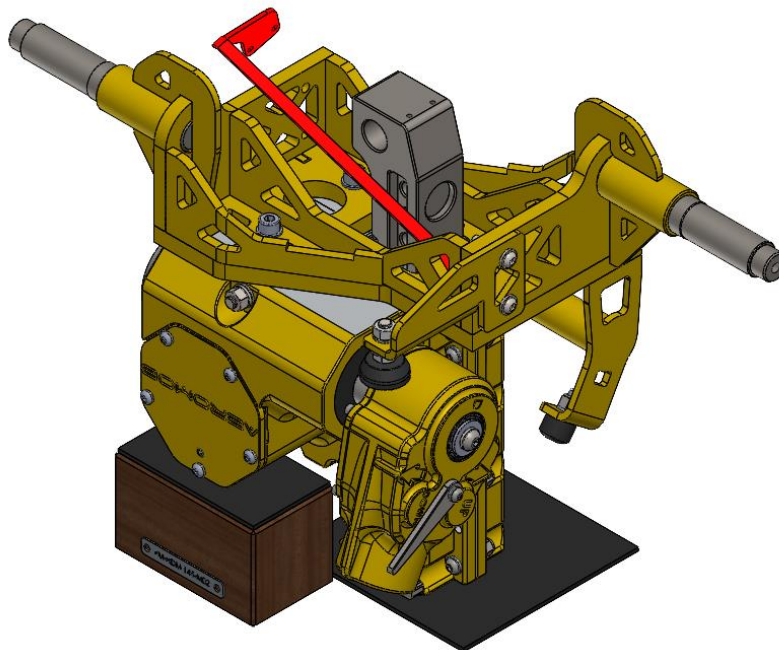
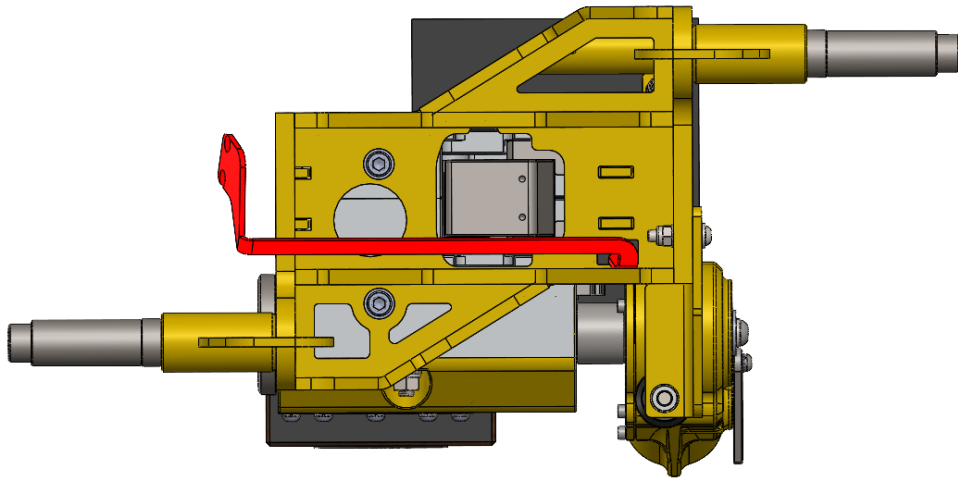

Figure 4
Figure 5
- b. With the block assembled according to MM AM-HDM-145-K01, place it upside down, tilt the arrow (1-4/14) towards the cover (1-4/8) as shown in Figure 4. Position the tip of the arrow in the pit, as shown in the top view of Figure 5. Carefully move the part into the mentioned pit and rotate it to a vertical position. Install screws (1-4/51).